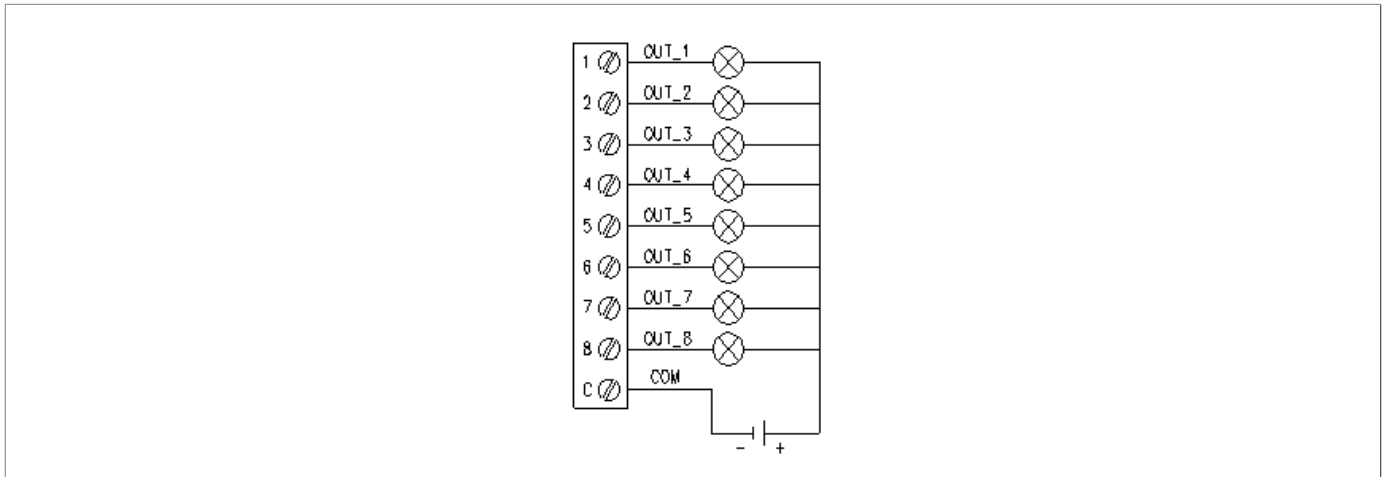

Fig. 4.8. Digital outputs connection
The ground reference of the voltage to be triggered must be connected to the common terminal of the connector (C) (Fig. 4.8). in following states: